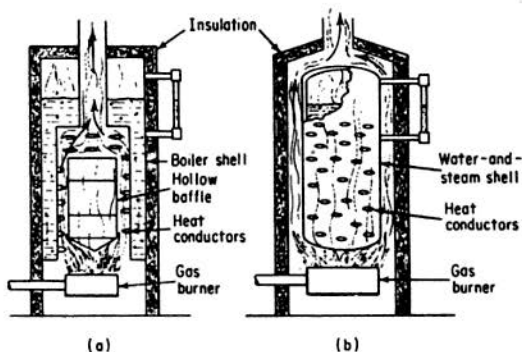

Fig. 3-14. Vertical tubeless boiler with (a) waterleg and (b) water and steam shell.
5. For even smaller capacity, the vertical tubeless unit (Fig. 3-14).
The vertical flueless type (Fig. 3-14) is popular for low-capacity steam of up to about 150 psi. There are several designs. Instead of tubes, the water is either in a jacket around the furnace (Fig. 3-14a) or in a water-and-steam cylinder (Fig. 3-14b) inside the furnace. On one type, reversal of gas flow takes place between openings on the jacket connected to the upper cylinder. Some designs have down-firing. There are no stay bolts or stays, as flat-surface widths are kept narrow or small in area. Thus the boiler plate thickness is adequate for resisting the bending stresses. Numerous solid U-shaped heat conductors are welded to the surface of the shell to provide better heat transfer.